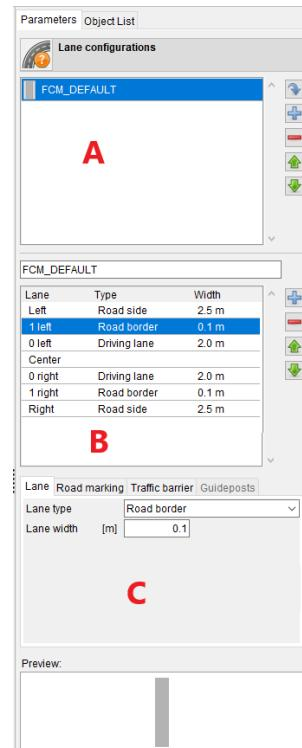

Figure 3.8: Road model to fit FSAE track rules
Before creating a new road segment, one of these lane configurations can be selected and the road segment will adopt this lane definition. However, selection of the lane type must be done prior to the generation of the road segment. If a lane configuration has not been selected, then the topmost lane definition is automatically nominated to create the road segment. The different lane configurations created by the user are saved as a part of the Project Folder. Hence, if a new Project Folder is created, the lane configurations will have to be transferred. Later, we'll learn how to change the width to single segments. In Figure 3.8 the lane configuration dialog is displayed.
- Open the dialog via *Lane configuration* . Press the - button (Figure 3.8 - section A) on the right side to add a new configuration and rename it to "myFSA-Etrack".
- Press the - button (Figure 3.8 - section B) to add seven lanes in total (three left, one center, three right).
- Remove the marking in the center of the road by selecting the 'Center' lane and within the *Road marking* tab select "None" in the dropdown menu next to *Line Type* (Figure 3.8 - section C).